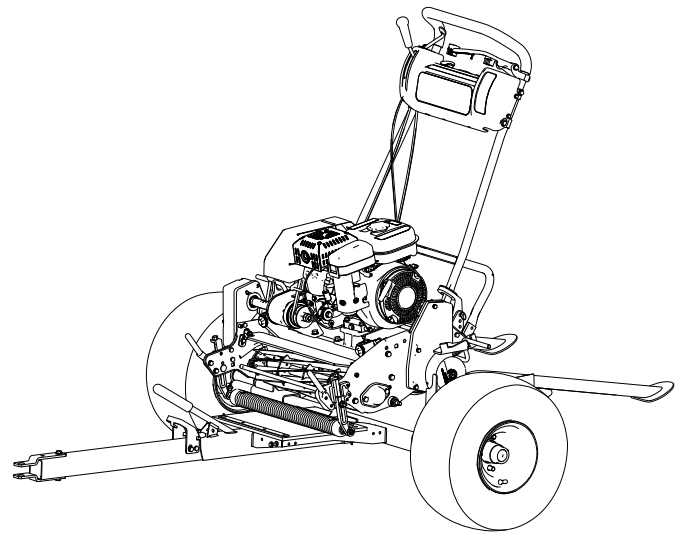

Figure 12
3. Remove the basket from the greens mower, disengage the reel drive and move the throttle to the slowest position. **Slowly** drive the greens mower onto the trailer until the wheel stops are contacted (Figure 12).
3. Remove the dust cap from the wheel hub (Figure 12).
4. Remove the cotter pin and retainer locknut (Figure 12).
5. Remove the hub nut, spindle washer and hub assembly from the axle (Figure 12).
3. Install the bearing cups and bearings to the hub assembly as shown in Figure 12.
1. Install the oil seal, hub assembly, and spindle washer as shown in Figure 12.